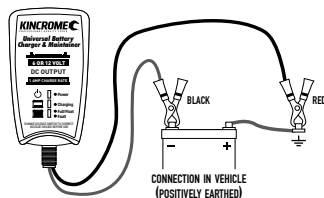

Fig. 3
- FIRST Connect the BLACK (-) Crocodile clip or ring terminal lead to the negative (-) battery terminal and then connect the RED (+) Crocodile clip or ring terminal lead to the vehicle's chassis (Fig 3).